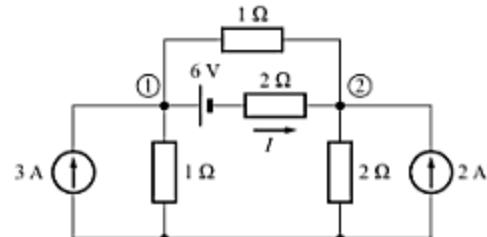

Fig. 3.80
21. Find the current I by using node-voltage analysis for the circuit given in Fig. 3.80.